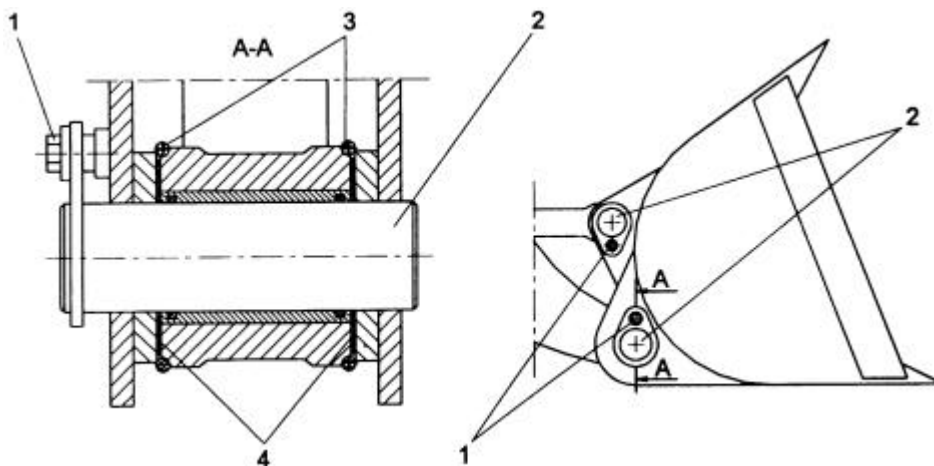

Fig. 5.59. Bucket Installation
2. Place the bucket in position as shown in Fig. 5.59.